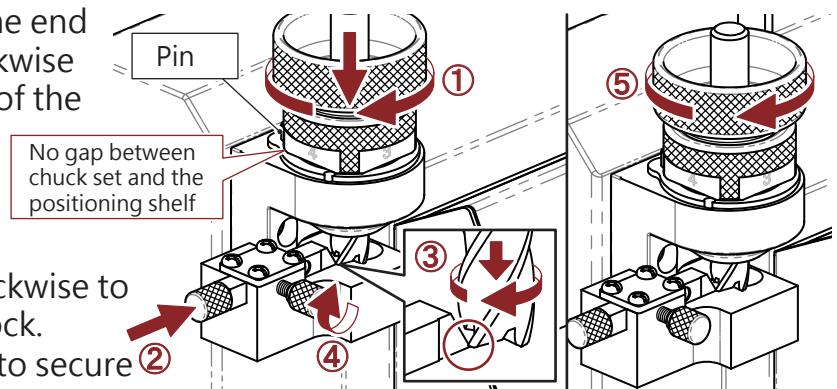

Fig. 7-2
2. End mill positioning (Fig. 7-2) :
- ① Align any slot of the clamping nut to the pin on the positioning shelf, insert the chuck set into the positioning shelf and fit them with no gaps, then turn the chuck set clockwise until it stops by the pin.
- ② Slowly move the alignment block inward.
- ③ Push the end mill to the end and slowly turn it clockwise until the outer corner of the end mill's any cutting edge touches the tip of the alignment block.
- ④ Turn the set screw clockwise to lock the alignment block.
- ⑤ Tighten the chuck set to secure the end mill.